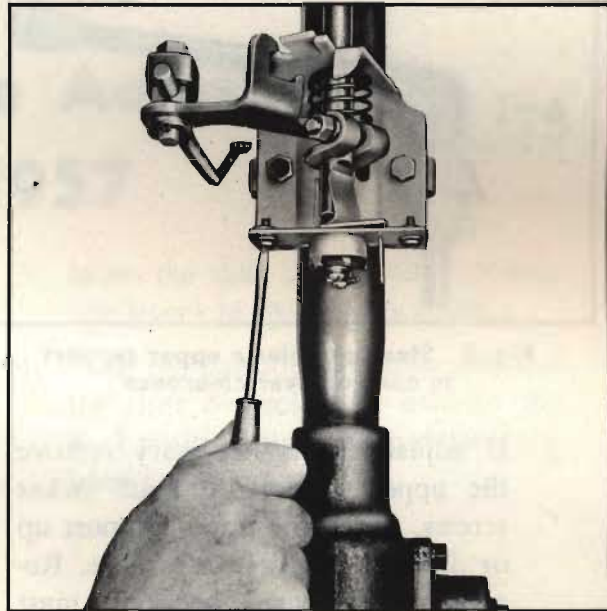

Fig. 7. Adjusting safety switch
2. Move the selective lever to the Neutral position. With the clip over the flats on the end of the shifter shaft, insert the pin into both the switch mounting bracket and the locating plate (Fig. 7).